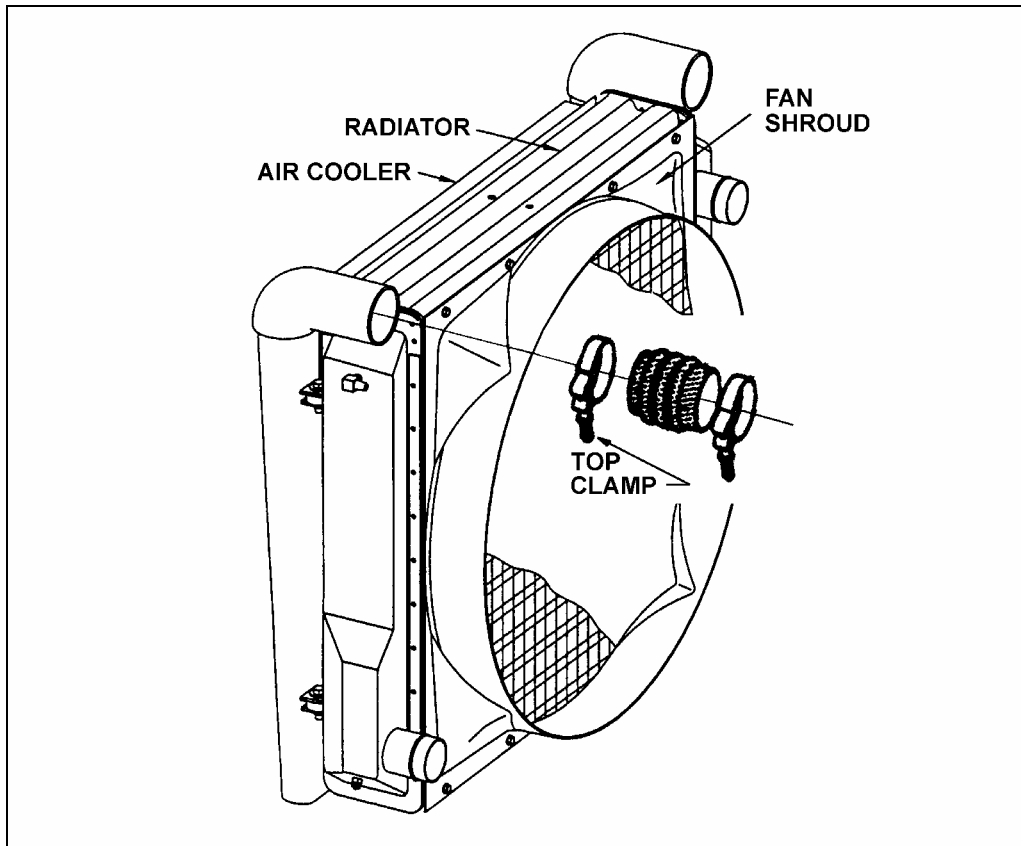

FIGURE 5: FAN SHROUD
9. Retighten top air cooler clamp (refer to fig. 5).
1. Remove the four top and bottom screws securing fan shroud (refer to fig. 5).